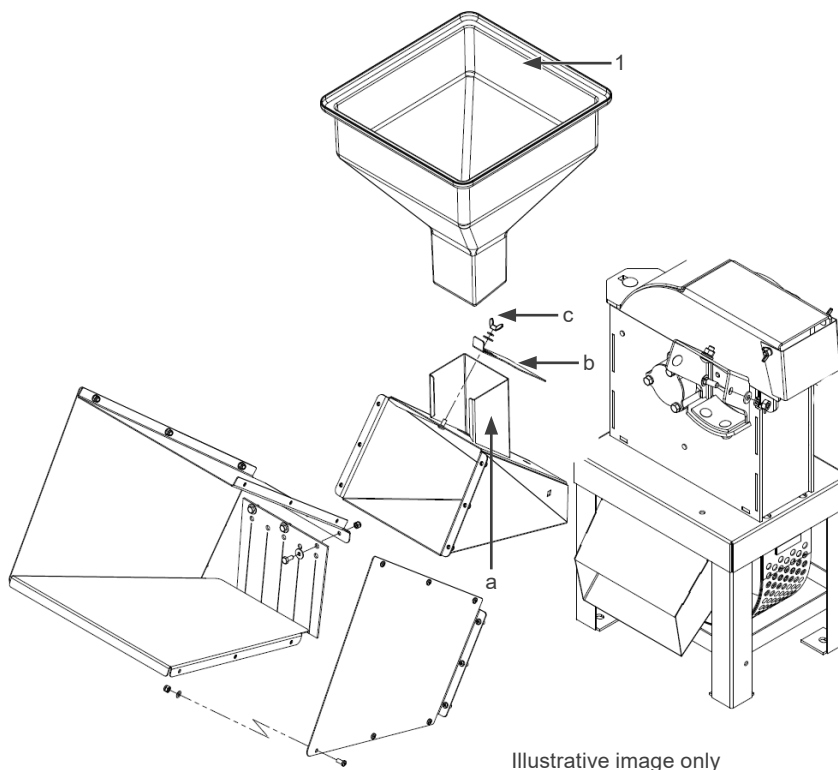

Figure 5.2: Illustrative image of the grain funnel assembly
- Assemble the left side (b) on the green hopper (a) using screws (25), washers (22), and nuts (21).
- With the sides (b and c) attached to the green funnel, assemble the base (d) by aligning the holes to attach the screws (25), washers (22), and nuts (21) from the outside.
- Secure the curtain (e) to the cover (f) using the screw (19), nut (21), and washer (18), then mount the cover (f) on the green funnel (2), aligning the holes with the sides (b and c) to secure the screws (25), washers (22), in this part with the nut (21) from the inside.
To assemble the grain funnel, remove the funnel (1) from the packaging and mount it on the funnel support (a) a. When using the grain funnel (1), adjust the grain outlet closure cap (b) by loosening the wing nut (c) located on the grain funnel, then tighten it again as shown in Figure 5.2 on page 124.